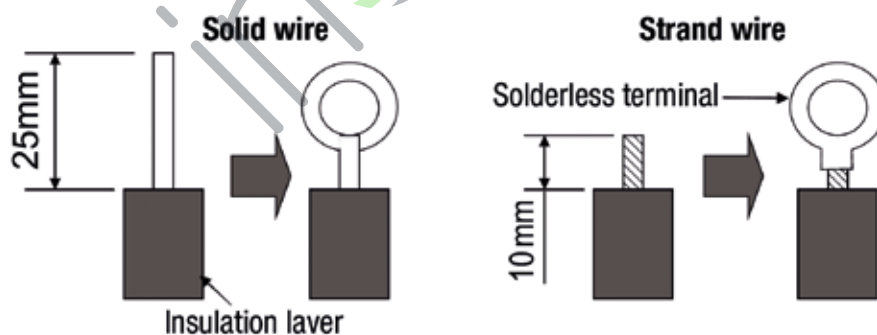

Fig. 29
1. For the copper terminal of the connection (Fig. 29).
2. For grounding (Fig. 29)